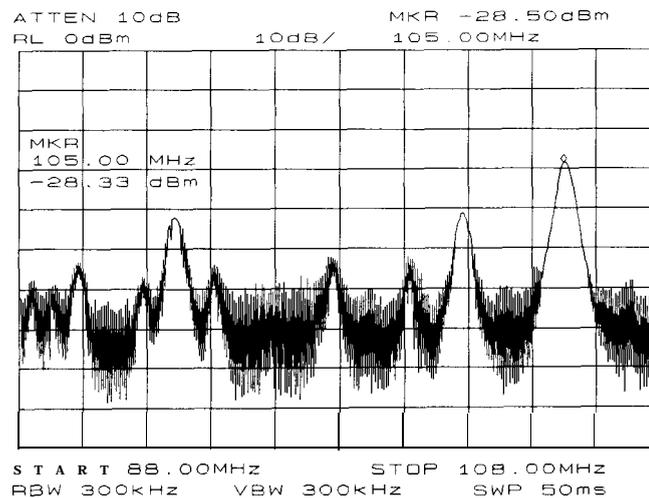

Figure 2-28.
- c. Position the marker on the signal of interest. If the signal of interest is the highest in amplitude, press **PEAK SEARCH** directly, as in Figure 2-28.